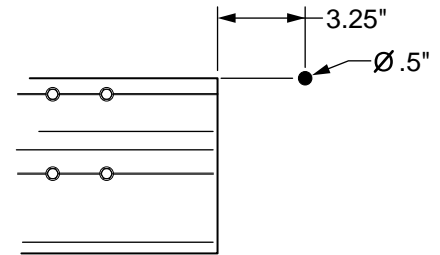

Figure 4. Cable Routing Hole.
- For motorized configurations. Drill one (1) 1/2" hole through outer wall as shown in Figure 4. RH configuration is shown, for LH configuration reverse end location. (Hole is behind the awning motor.)